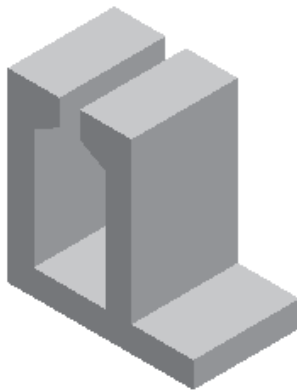
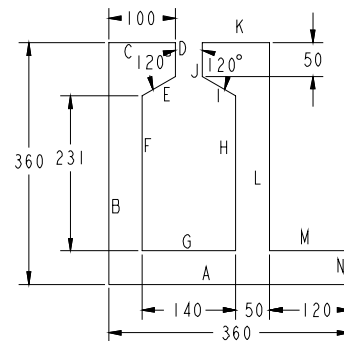

Figure 1-27 Model for Tutorial 2
Figure 1-28 Sketch of the model
In this tutorial, you will draw the sketch for the model shown in Figure 1-27. The sketch is shown in Figure 1-28. For your reference, all entities in the sketch are labeled alphabetically.
The sketch in Figure 1-28 consists of only lines. For ease of understanding, all lines in the sketch are labelled alphabetically.
9. Now, continue drawing the remaining lines that are shown in Figure 1-28. When the sketch is complete, end the line creation by pressing the middle mouse button. Notice that the sketched entities are dimensioned automatically as you draw them. These dimensions are weak dimensions and appear in gray color.